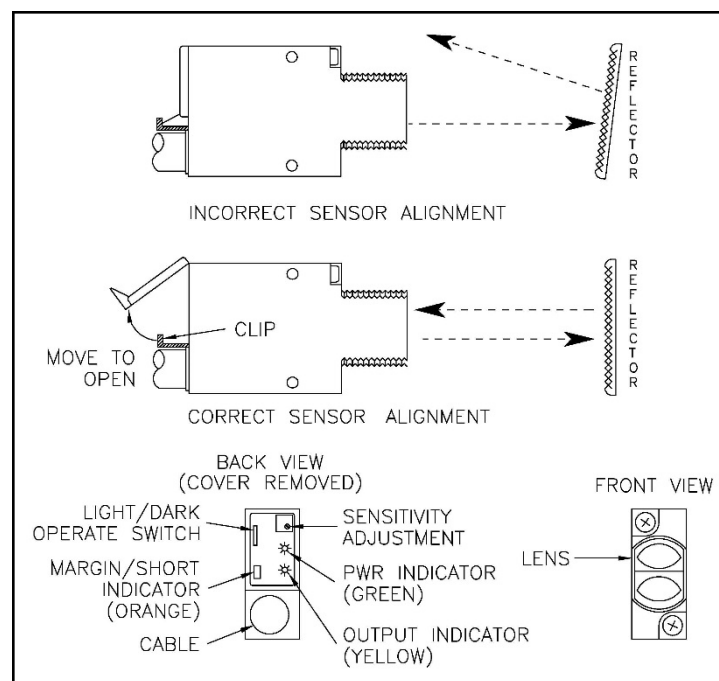

Figure 49 Through Beam Product Detector
3. The rear cover window on the detector must be opened before any adjustments can be made. See Figure 49. Press the flexible retaining clip against the cable to open the window.